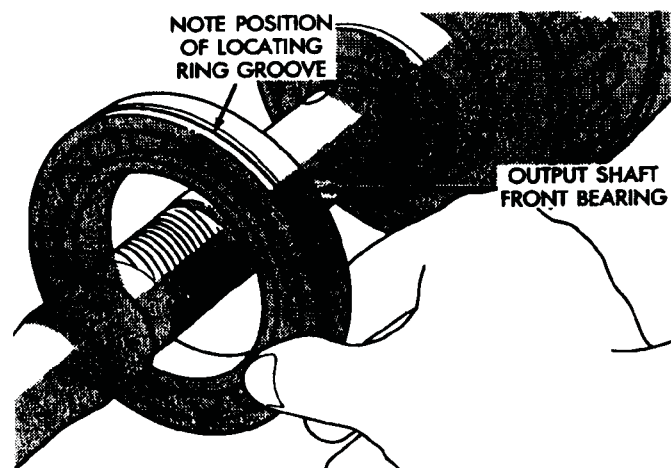

Fig. 21 Output Shaft Front Bearing Removal
- (6) Remove front bearing from output shaft (Fig. 21).